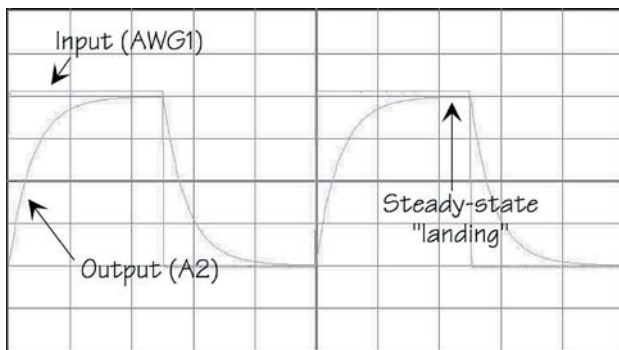

Fig. 2—Exponential response
5. You should see the display of Fig. 2 (next page).